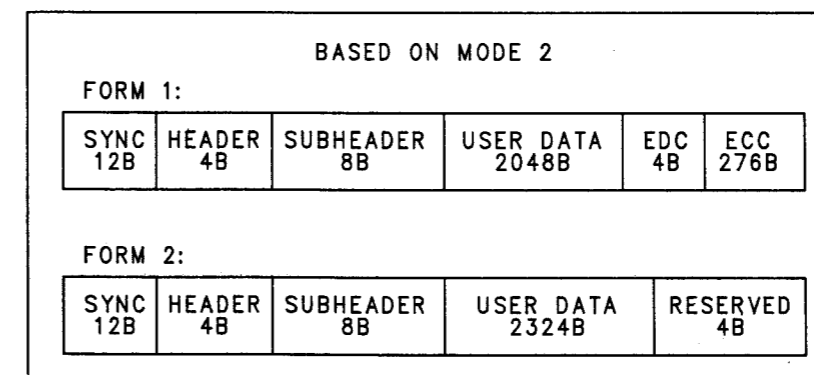

Figure 6 - CD-I Forms
As with CD-ROM, CD-I defines data in the form of sectors, each sector contains 2352 bytes (see Figure 6). The CD-I physical format is based on CD-ROM, Mode 2. CD-I is primarily an audio/video driven medium. Thus, video must be synchronized to the audio with the CD data rate of 75 sectors per second. At the same time, there is a need for real-time interactivity. Thus all three data types, audio, video, and text (binary data), are physically interleaved. The sub-header (SH) mechanism is used for real time physical interleaving of data.